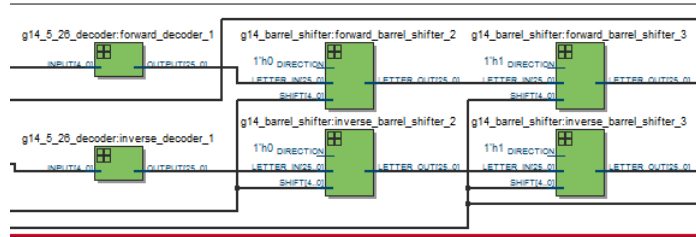

Figure 12: The fourth layer of components of the rotor.
7. Now the signal passes on to the forward_barrel_shifter_2 where it is shifted to the **right** based on the ring setting for this particular rotor (note that this is the opposite direction from before, and that the ring setting is shifting first. This is part of what makes the rotors invertible). This can be seen in figure 12.
8. The final scramble happens next, the signal is shifted **left** by the count (which we shifted the signal to the right by before). This can be seen in figures 12 and 13.